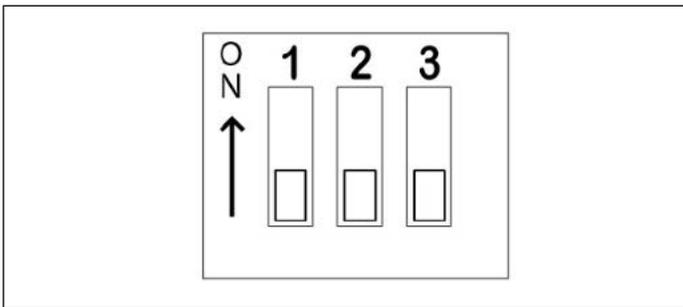

Figure 3-31 - Modbus RS-485 Network Configuration Switches
There are three (3) switches (DIP switch) that allow enabling or disabling some termination and bias resistors for the proper function of the RS-485 network (see **Figure 3-31**). These switches are located on top-right corner when the thermostat enclosure is open.